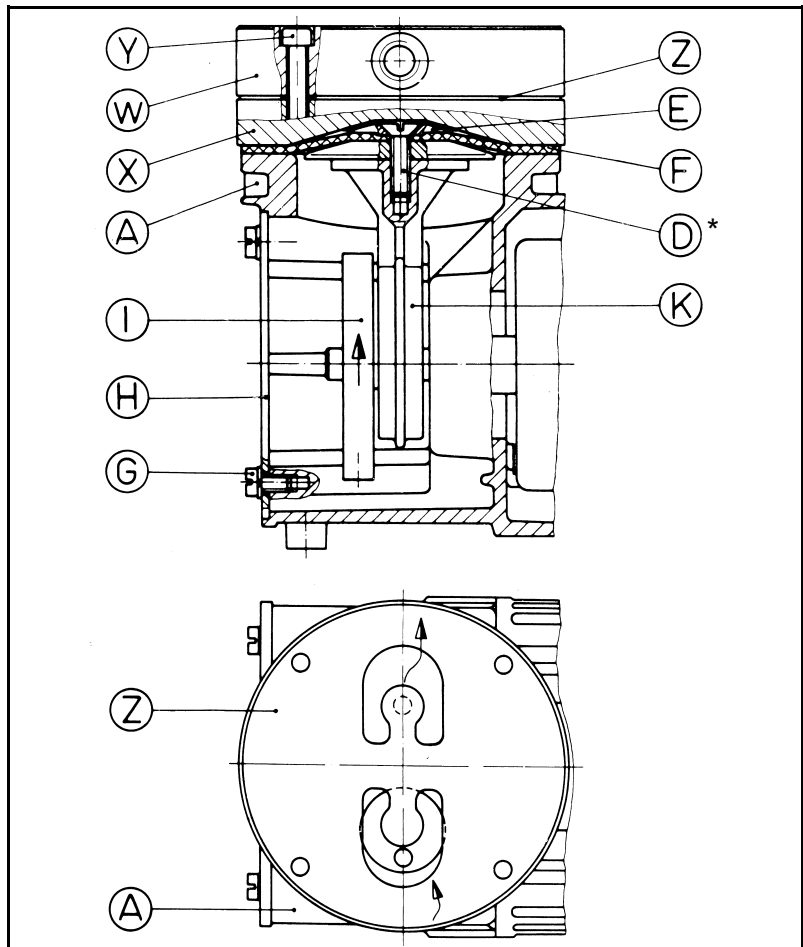

Fig. 13: Pump parts for versions with stainless steel head
\*\*According to Fig. 13
12. Place the new valve plate Z on the intermediate plate X (for orientation: see fig. 13).
\* According to Fig. 13